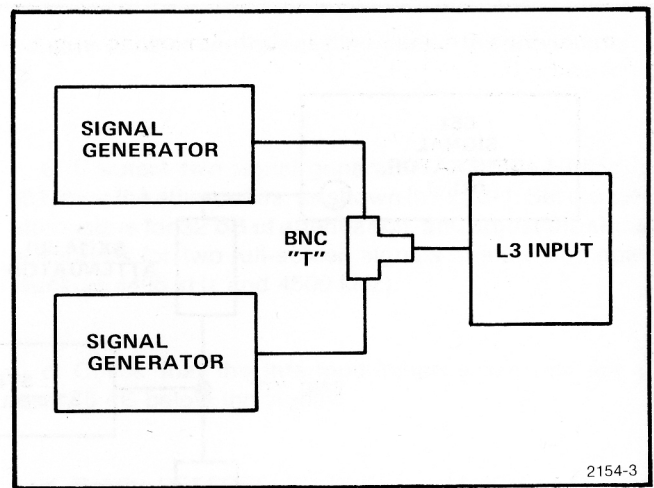

Fig. 3-2. Test set-up for out-of-band intermodulation distortion.
b. Connect two signal generators, such as HP 8654, to the L3 as indicated in Fig. 3-2. Set generator one to 10 MHz and generator two to 14.5 MHz.